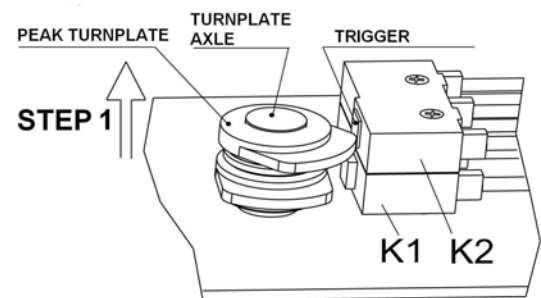

Fig.4
1 or 2 optional auxiliary switch(es), the function of which can be made by order. The operational angle of the damper actuator which has 2 limiters can be adjusted by setting the peak turnplate. The adjustable feedback position is larger than 60° on clockwise, and small than 30° on anti-clockwise. Please find the installation details at Fig.4. The default setting of one switch type is at 90°, and that of two switches type is at 0° and 90°.
2. Turn the axle to the needed position, then put the peak turnplate back, make sure the peak is just against the trigger. (As Fig.4)